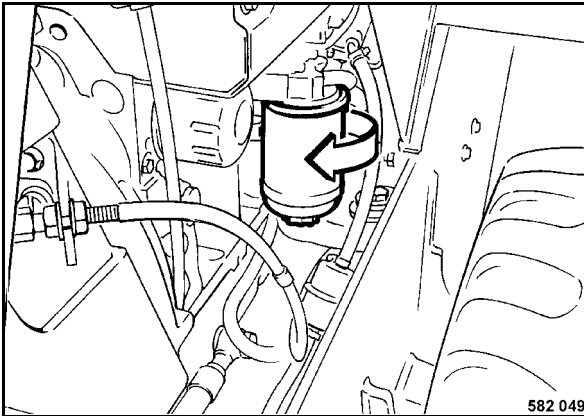

Fig. 91
- Unscrew the fuel filter cartridge (Fig. 91) using an appropriate filter wrench.